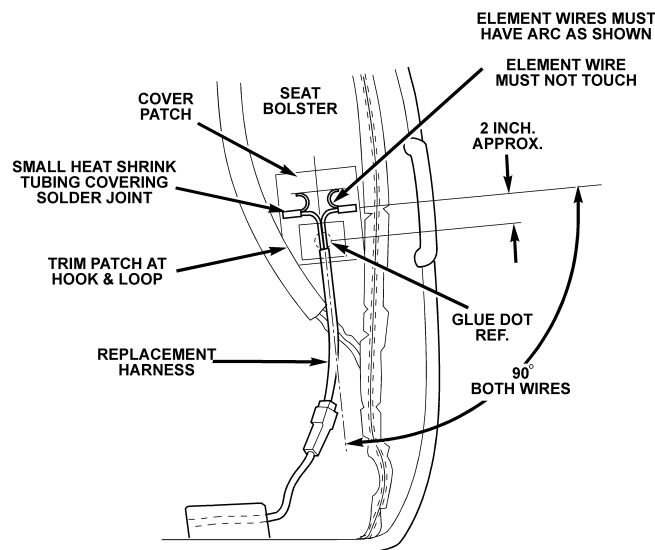

Figure 4
10. The soldering procedure requires a technician skilled in soldering fine electrical/electronic wiring. Using a soldering iron and rosin core, solder the new harness to the heating element as shown in Figure 4. Do not use any soldering equipment utilizing an open flame for this procedure. This could damage the foam cushion. Make sure utilize the proper soldering procedures and heat the wire hot enough to melt the solder to avoid a cold solder joint. Cut piece of heat shrink tubing in half and install it on the wire as shown. Shrink the tubing using a heat gun.